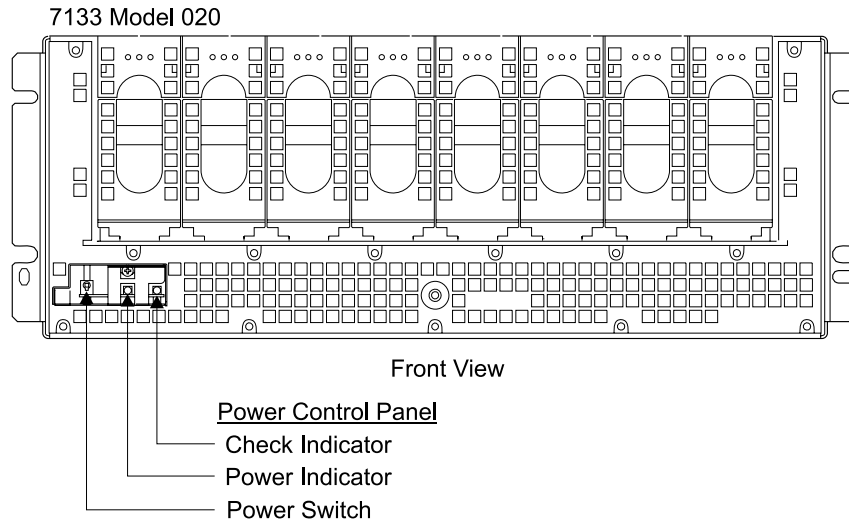

Figure 143. SSA DASD Model 020 Power Control Panel Locations (S008020m)
7. Use Figure 143 on page 284 in the following steps to locate the switch and indicators on the SSA DASD drawer power control panel: